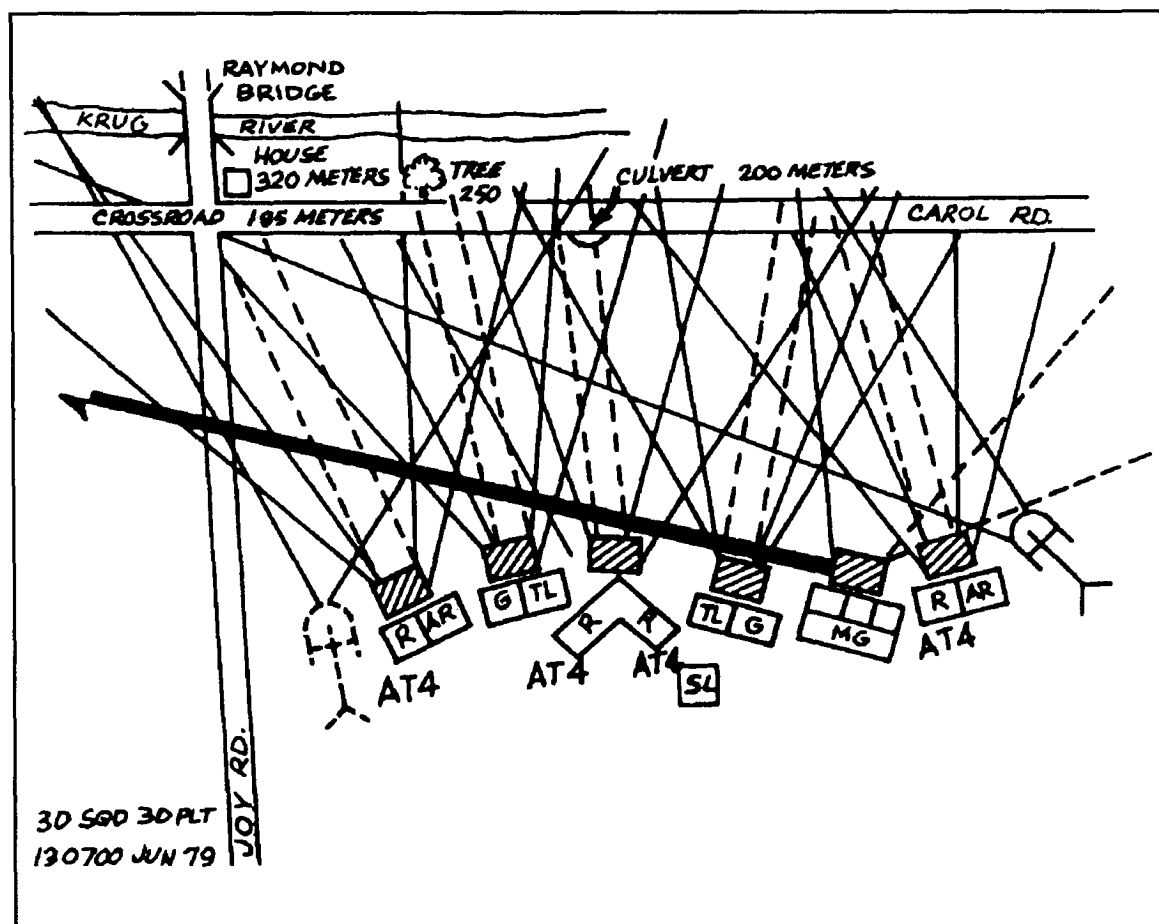

Figure 6-8. Squad sector sketch.
b. As it does with other key assets, the squad and platoon leader's sector sketch identifies TRPs and primary areas of possible engagement. The sector sketch also identifies possible avenues of approach for enemy armored vehicles. Each light antiarmor weapon shares a sector of fire with the primary small-arms weapon assigned to its position. However, because it is neither a primary nor crew-served weapon, the light antiarmor weapon does not require a separate range card. When assigning sectors of fire, squad and platoon leaders inform firers of all possible target areas, TRPs, and prearranged signals (Figure 6-8). (FMs 7-7, 7-7J, and 7-8 provide more information about the squad and platoon sector sketch.) Leaders provide each designated position with two or more light antiarmor weapons.